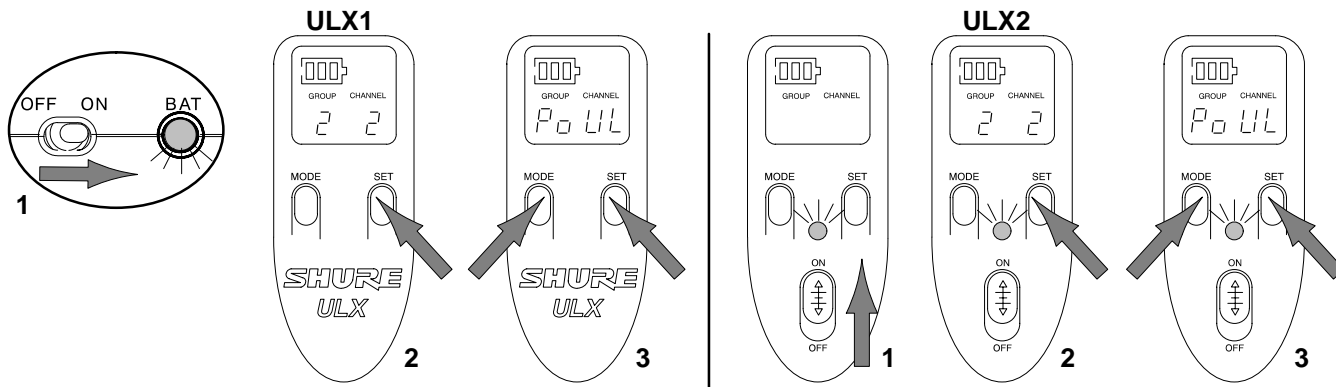

FIGURE 36
2. While holding down the transmitter SET button, press and hold the MODE button for four seconds. "Po UL" will appear on the display. See Figure 36. This display indicates that the Power On/Off switch is unlocked. The transmitter will then return to normal operating mode.